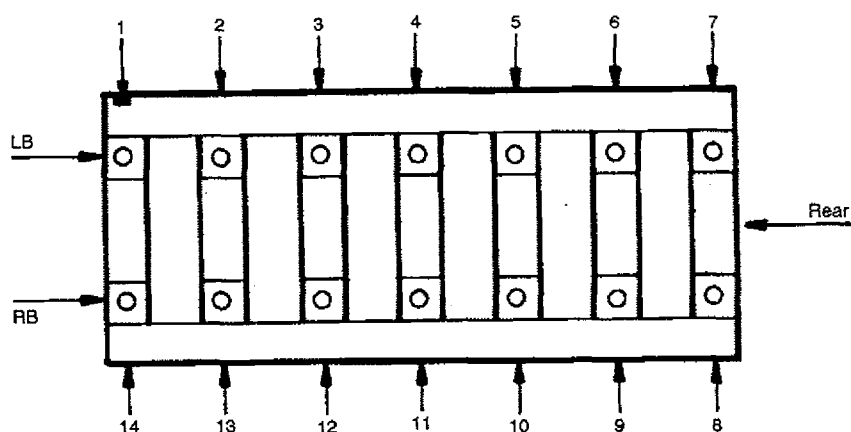
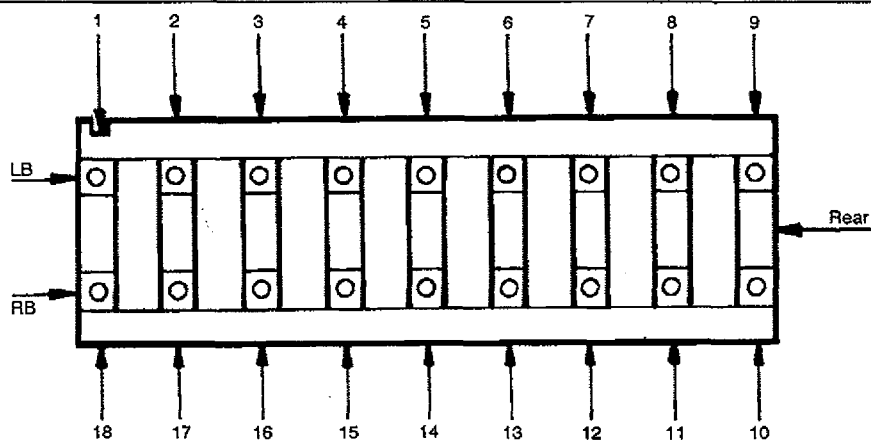

Fig. 4W
Fig. 5W
- 3 Tighten all of the side bolts to a snug torque see **sequence Fig. 4W (12 cyl)** and **Fig. 5W (16 cyl)**.